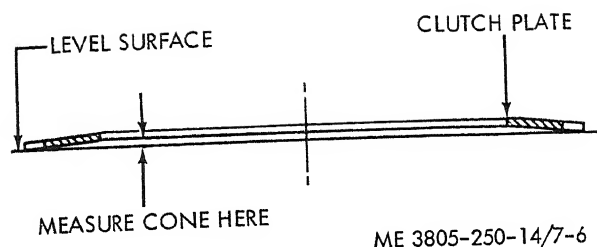

Figure 7-6. Measuring clutch plate cone.
(1) Clean all parts with solvent and dry with compressed air or clean lint free cloths. Flush bearings thoroughly to remove packed deposits in the races. After cleaning allow the bearings to air dry. Do not spin bearings or use compressed air to dry them, as damage due to lack of lubrication may occur. Use a soft wire to clean oil passages in the transmission components, and flush thoroughly with cleaning solvent.
(2) Inspect the clutch plates for cracks, burrs, scoring, galling, distortion, cone, and wear. The amount of cone is determined by measuring the distance between the inside diameter of the plate and a level surface. Refer to figure 7-6. Friction faced clutch plates are  $0.153 \pm 0.003$  inch thick with permissible wear of 0.020 inch. Allowable cone is 0.012 inch. Steel clutch plates are  $0.115 \pm 0.008$  inch thick with permissible wear of 0.010 inch. Allowable cone is 0.030 inch. Minimum clutch pack thickness for the high range clutch is 0.357 inch. Minimum clutch pack thickness for the low range clutch is 0.681 inch. Minimum clutch pack thickness for the reverse range clutch is 1.185. Replace plates having the most wear with new plates to increase clutch pack thickness.